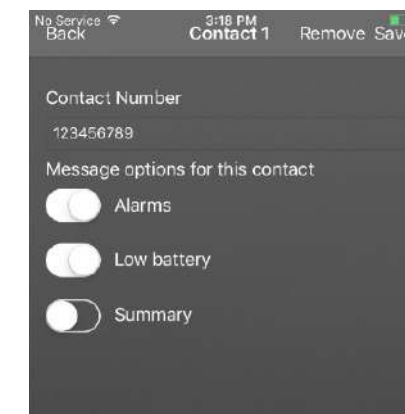

Fig. 7
9. Contact Information – Input up to three contact numbers that this EL-SMS device should notify and select which messages they will receive (See Fig. 7).